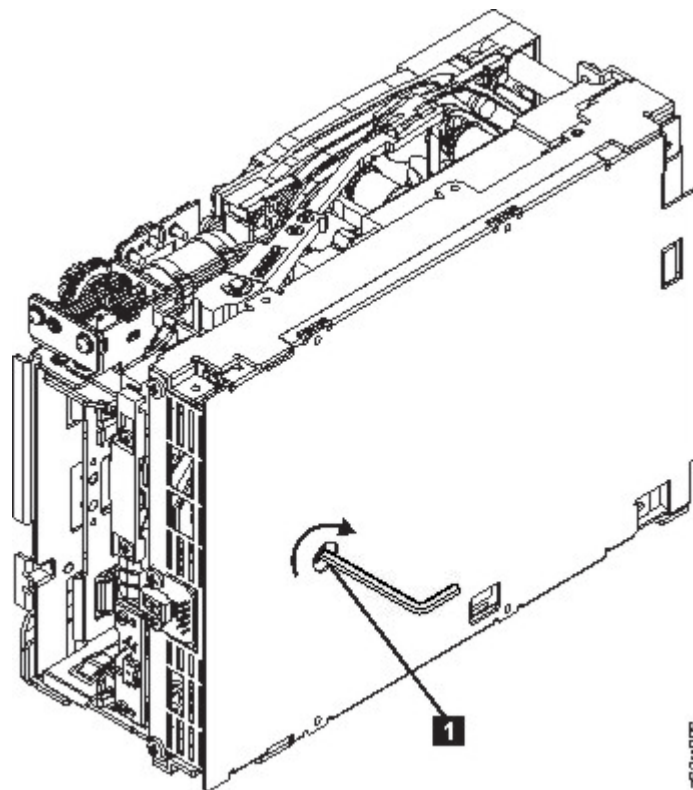

Figure 111. The hex wrench rewinds tape into cartridge
6. From the bottom of the drive, locate the access hole (1) in Figure 111 on page 187 in the bottom cover. Insert a 2.5 mm offset hex wrench through the bottom cover access hole and into the reel motor axle. Begin spooling tape back into the cartridge by turning the hex wrench clockwise.